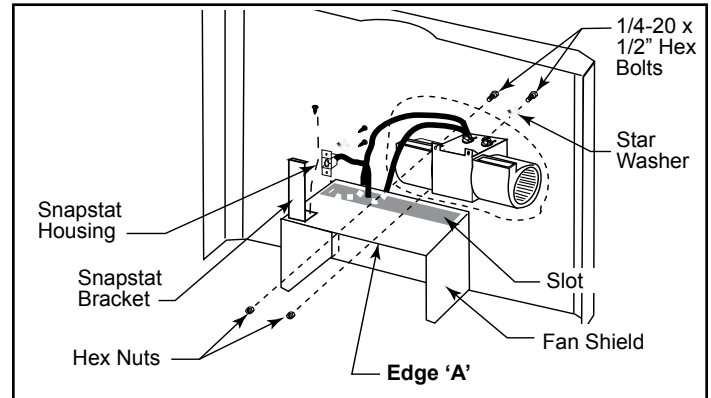

Figure 19 - Position the fan behind rear shroud.
2. Position the fan behind the rear shroud. (Figure 19) Pass the fan rheostat assembly and snapstat assembly beneath the stove toward the front.
- Attach the snapstat housing to the snapstat bracket with two (2) sheet metal screws and one (1) #8 star washer. (Figure 19)
- Attach the snapstat bracket, with the snapstat assembly attached, to the horizontal surface on the inside of the rear shroud. Use a sheet metal screw. There are predrilled holes at each corner of the panel for this. The vertical part of the snapstat bracket should be 3/16" back from Edge 'A'. (Figure 19)
- Attach the fan assembly to the rear shroud using two (2) 1/4-20 x 1/2" hex head bolts, two (2) 1/4"-20 nuts and one (1) 1/4" star washer. (Figure 19)